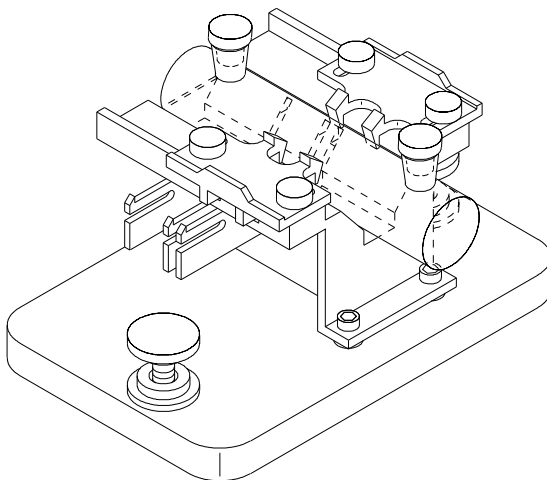

Figure 18 Installed 10-cm cylindrical cell in the long path cell holder
- 5 Allow the clamps to close against the sample cell, see Figure 18. Tighten the four screws that hold the sample cell in place.